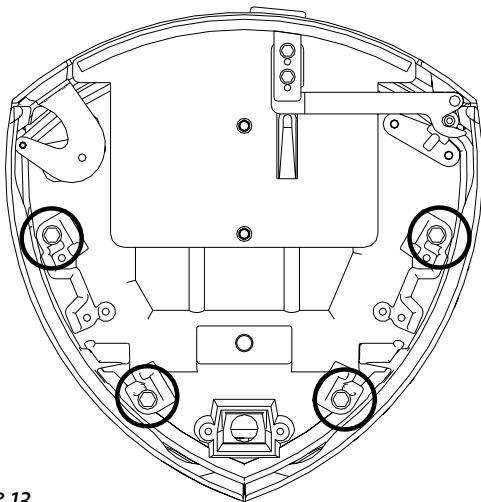

Figure 13.
2. Use a 13 mm wrench to remove the four, M8 x 25 mm bolts, shipping brackets, and steel spacers from the bottom of the firebox as shown in fig. 13.